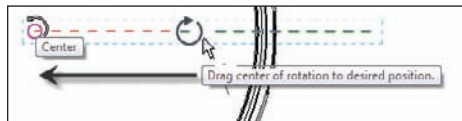

FIGURE 4.9 Click and drag the rotate icon to the endpoint of the reference plane.
3. After you start the Rotate command, look back at the reference plane. Notice the icon that resembles a recycle arrow in the middle of your line. Revit will always calculate the center of an object (or group of objects) for the rotate point (see Figure 4.9).
5. We must move this icon to the left endpoint of the reference plane. To do so, click and drag the rotate icon to the endpoint of the reference plane, as shown in Figure 4.9.